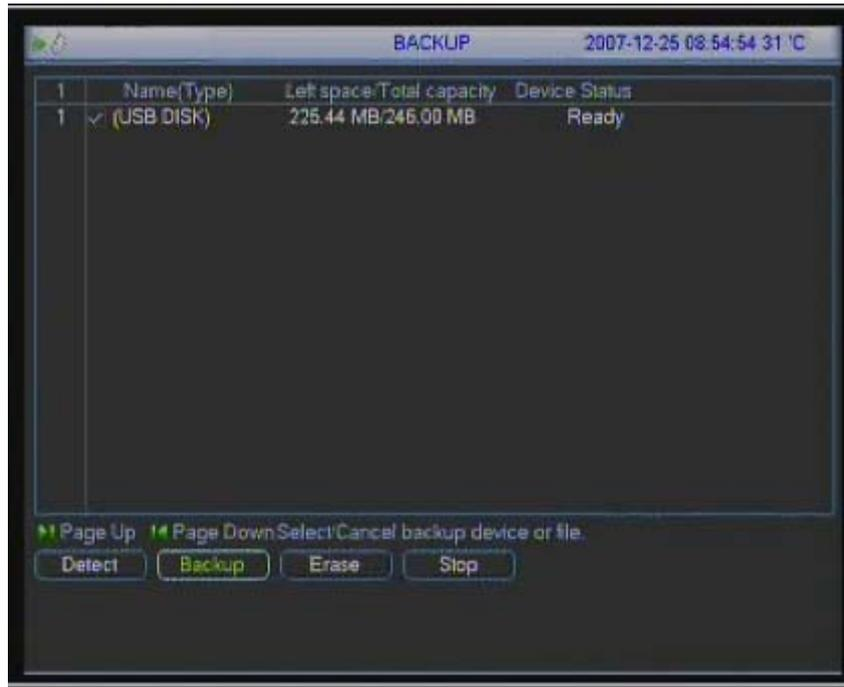

Figure 4-25
- PTZ activation: Here you can set PTZ movement when alarm occurs. Such as go to preset, tour & pattern when there is an alarm. Click “select” button, you can see an interface is shown as in Figure 4-25.
Here is for you to view devices information. See Figure 4-25.